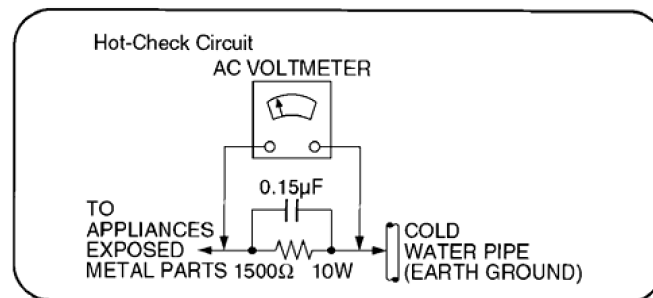

Figure 1
5.1.2. Leakage Current Hot Check (See Figure 1)
2. Connect a $1.5\text{k}\Omega$, 10 watts resistor, in parallel with a $0.15\mu\text{F}$ capacitor, between each exposed metallic part on the set and a good earth ground such as a water pipe, as shown in Figure 1.